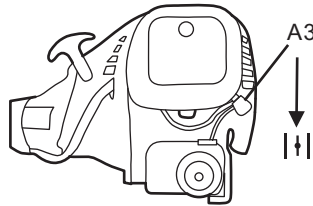

Fig. 13b
3. Move the choke lever (A3) to the position |↑|, do not press the primer. (See Fig. 13b)